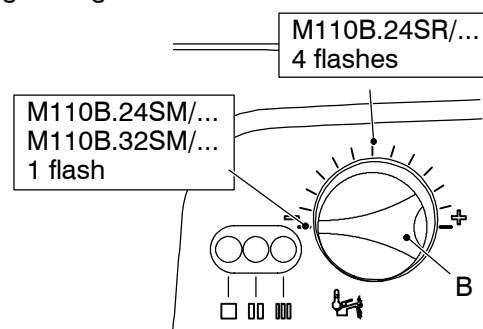

Fig. 9.17
It's now possible to check the current setting by pressing reset button C for more than 5 seconds. The three lamps E will flash a number of times corresponding to the setting as in Fig. 9.17 (once for the combination and four times for system boilers). At this point only the right green light flashes.
- 11 To change the setting turn the knob B on a position corresponding to the boiler model (Fig. 9.17).